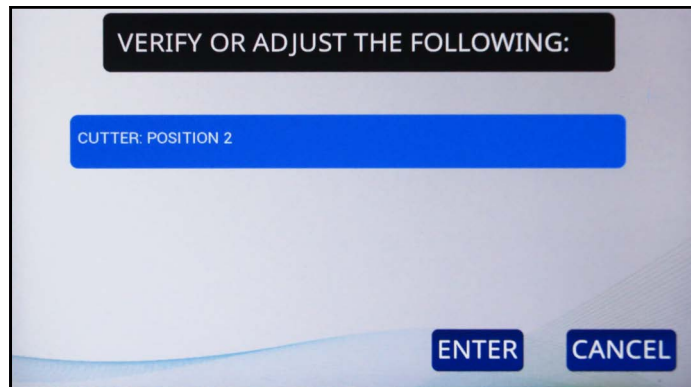

Figure 5-9: verification screen
2. On the Main screen, press **RUN**. The OM606 will prompt you to verify or adjust the cutter position (Figure 5-9). For the default Job, the cutter should be set to Position 2.